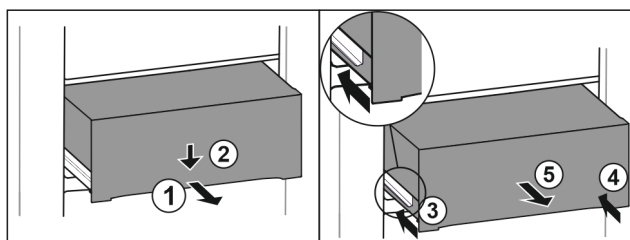

Fig. 121
- Pull out drawer half-way. *Fig. 121 (1)*
- Push the drawer down at the front. *Fig. 121 (2)*
- Push the left rail in by about 2 cm. *Fig. 121 (3)*
- Push the right rail in by about 2 cm. *Fig. 121 (4)*
- Remove drawer to the front. *Fig. 121 (5)*